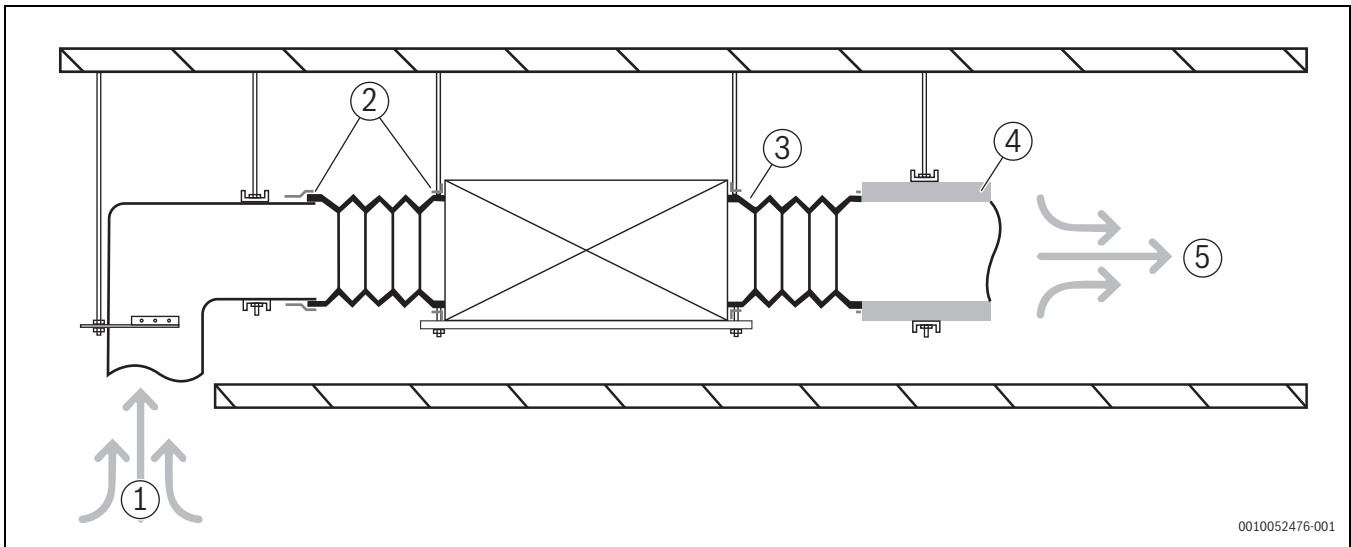

Fig. 28 Duct unit with static pressure requirements
6. Connect the air duct as shown in Fig. 28. On-site preparation required for all components except for the air conditioner.
Legend Fig. 28: